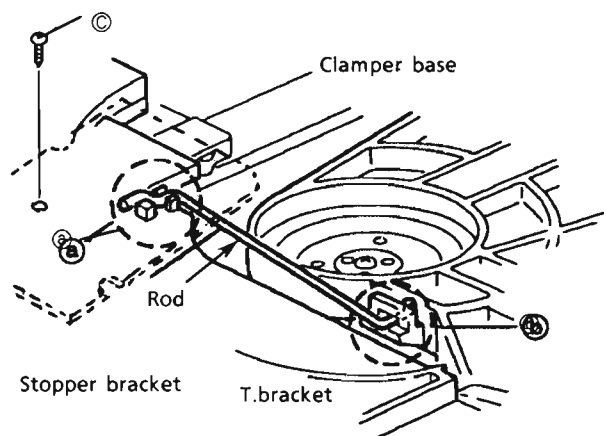

Fig. 27
2. Remove the screw ③ holding the stopper bracket.(See Fig.27) ---- (U.S.A only)
3. Remove the rod from both ends' hooks which are secured on T.Bracket ② and clamber base④.[See Fig. 27]